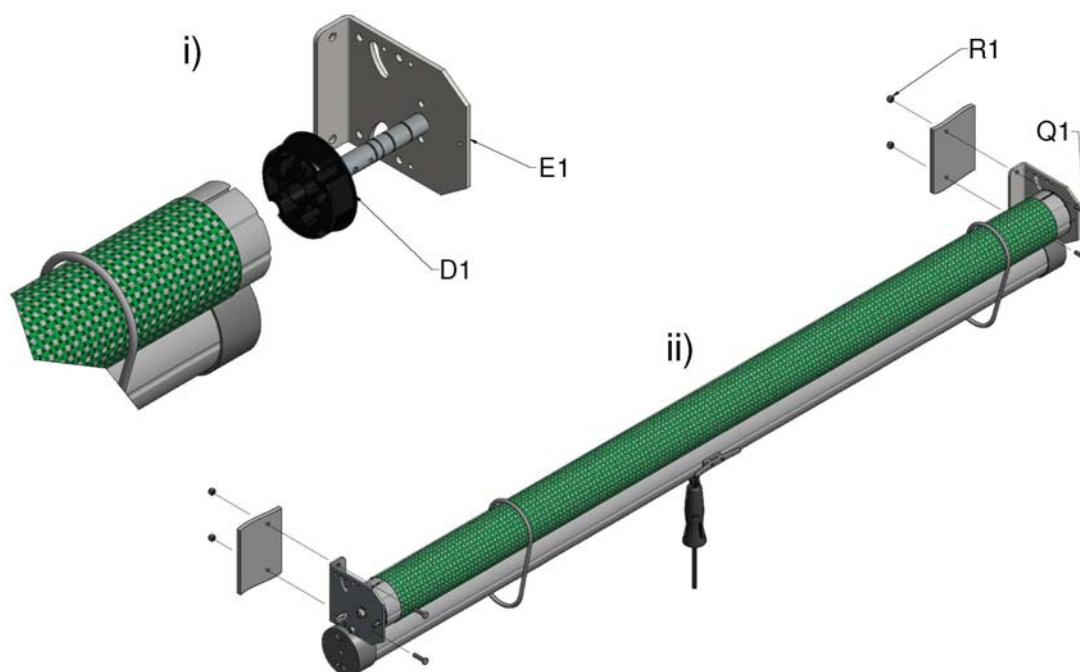

Figure 7a, Mounting Screens up to 5.0m Wide to the Building
6.1. Screens up to 5.0m wide (Figure 7a):